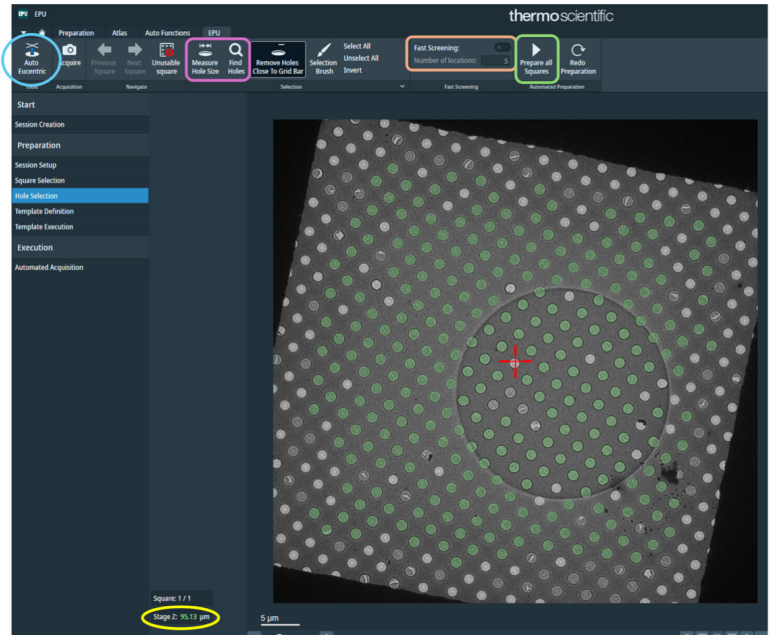

Figure 12. The options available in the Hole Selection tab
- 4.12.5.1. Move to the hole selection tab (Figure 12). Go to square 1/x using the *Navigate* buttons.